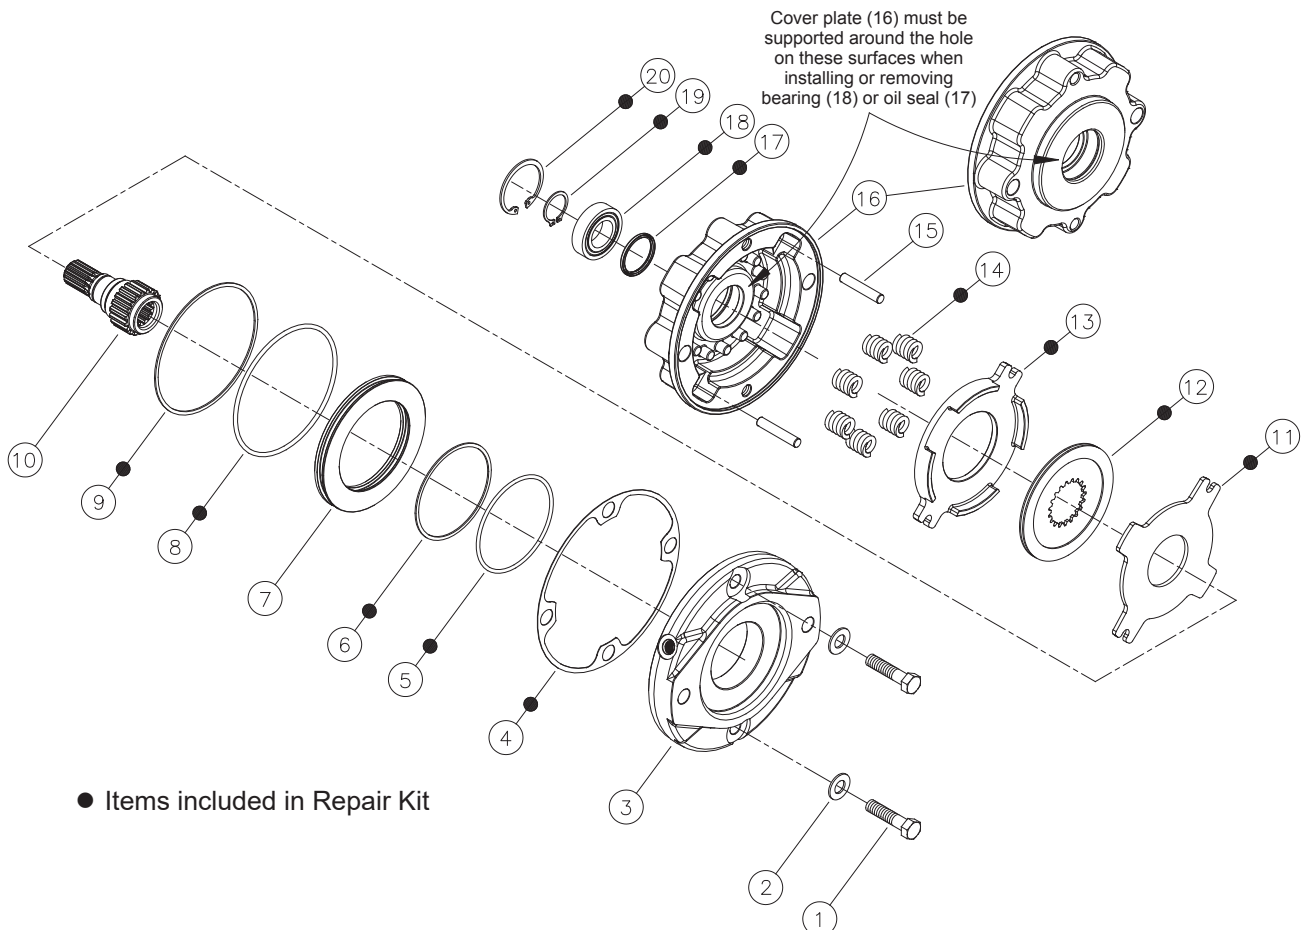

FIGURE 1
(Refer to Figure 1 for item numbers)
This literature services various models in this brake series. The components shown in Figures 1 and 2 may appear different than what is found in your brake.
(Refer to Figures 1 and 2)
Pressure plate is under spring tension of approximately 907 kgf (2000 lb). The two cap screws must be loosened evenly to relieve this force. If a hydraulic press is available, 1361 kgf (3000 lb) maximum, the pressure plate can be held in position while removing the cap screws. Cover plate (16) must be supported as indicated in Figure 1.
2. Remove case seal (4) from cover (16).
3. Remove piston (7) from pressure plate (3).
4. Remove o-ring (5), back-up ring (6), o-ring (8) and back-up ring (9) from piston (7).
5. Remove stator disc (11), rotor disc (12) and return plate (13) from cover (16).
6. Before removing springs (14), note the spring pattern and spring color for reassembly purposes. Remove dowel pins (15) and springs (14) from cover plate (16).
7. Remove retaining ring (19) from cover plate (16).
8. Remove shaft (10) by pressing or using a soft mallet on male end of shaft (10). **NOTE: Cover plate (16) must be supported as indicated in Figure 1.**
9. Remove retaining ring (20) from cover plate (16) and press out oil seal (17) and bearing (18) if required. **NOTE: Cover plate (16) must be supported as indicated in Figure 1.**
2. Press new oil seal (17) into cover plate (16) until it is flush with bearing shoulder. Note direction of oil seal (17).
3. Press new bearing (18) into position until it bottoms out on borestep. **NOTE: Cover plate (16) must be supported as indicated in Figure 1.**
4. Install new retaining ring (20) in cover plate (16).
5. Press shaft (10) into bearing (18) until it bottoms on shoulder. **NOTE: Bearing (18) inner race and cover plate (16) must be supported as indicated in Figure 1 during this operation.**
6. Install new retaining ring (19) on shaft (10).
7. Install dowel pins (15) and new springs (14) in cover plate (16). Be sure to use the same number of springs and spring pattern as recorded during disassembly. Contact ZF Off-Highway Solutions Minnesota Inc. if you have questions regarding the spring pattern.
8. Position new return plate (13) on springs (14). **NOTE: Return plate (13), rotor disc (12), and stator disc (11) must remain dry during installation. No oil residue must be allowed to contaminate friction surfaces.**
9. Install new rotor disc (12) and new stator disc (13).
10. Install new o-rings (5 & 8) and new back-up rings (6 & 9), on piston (7). Note the order of o-rings and back-up rings. Install piston (7) into pressure plate (3). **NOTE: Be careful not to shear o-rings or back-up rings. Be careful not to scratch or mar piston.**
11. Install new case seal (4) in cover plate (16).
12. Position pressure plate (3) on cover plate (16) aligning dowel pins (15) with holes in pressure plate (3).
13. Install two cap screws (1) and two washers (2) and tighten evenly to draw pressure plate (3) to cover plate (16). Torque cap screws 65.1-67.8 N·m (48-50 lb·ft). **NOTE: A hydraulic press will simplify installation of pressure plate on cover. Clamp pressure plate in position while tightening the cap screws. Cover plate (16) must be supported as indicated in Figure 1.**